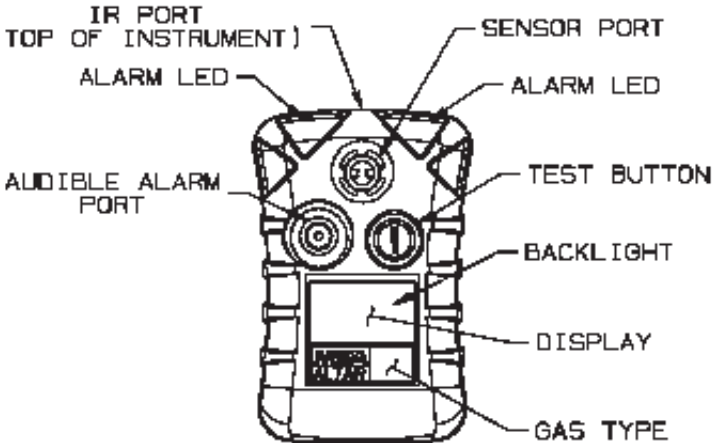

Figure 2-1. ALTAIR Pro Overview
- Figure 2-1. ALTAIR Pro Overview2-1
- Toxic Gas Measurements (see figure 2-1)2-9